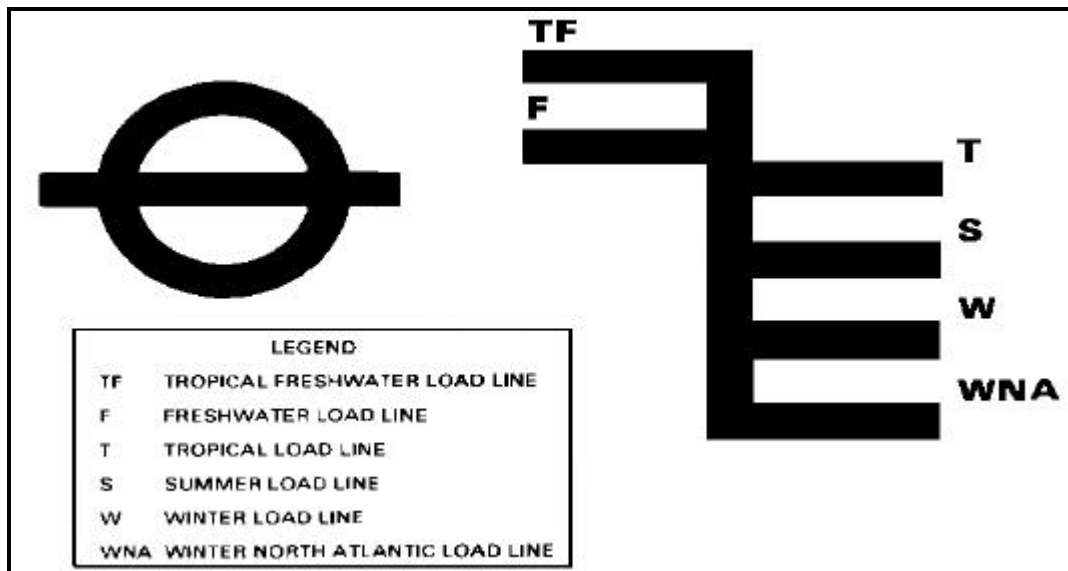

Figure 4-8. Load-line markings
- **Load Line.** The load line is the line that shows the maximum mean draft to which a vessel may be lawfully submerged. It is the lower limit of the freeboard for different conditions and seasons. Freeboard is the vertical distance amidships from the upper edge of the deck line to the upper edge of the load line. Load lines, set by proper authority, must be permanently and clearly marked on the vessel next to the load lines (Figure 4-8). The disk must be amidships below the deck line. The authority responsible for assigning load lines may be shown by letters, such as A-B for American Bureau of Shipping, alongside the disk and above the centerline. International load line certificates, issued by the Coast Guard, certify that the load line is correct. The horizontal lines mark the maximum load line for different conditions and different seasons.